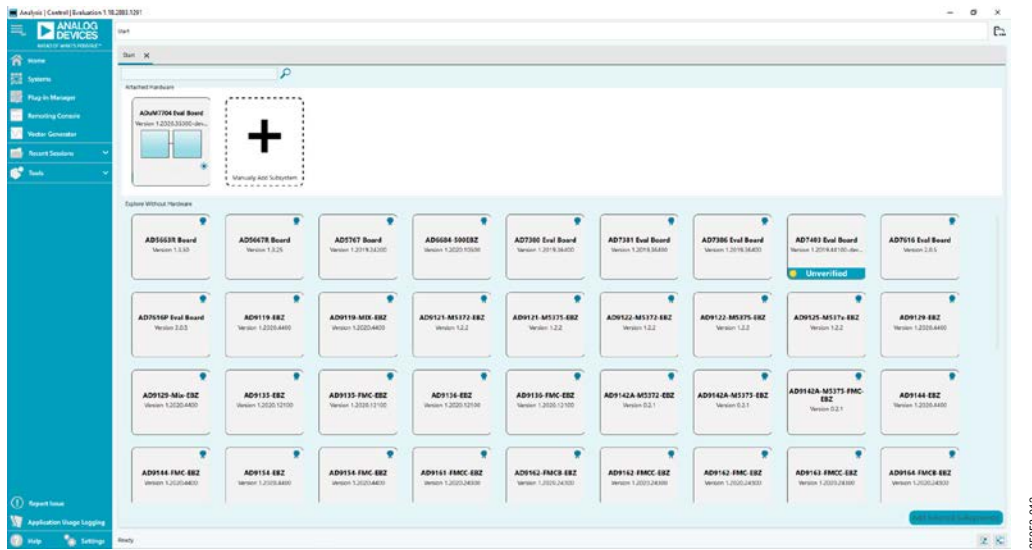
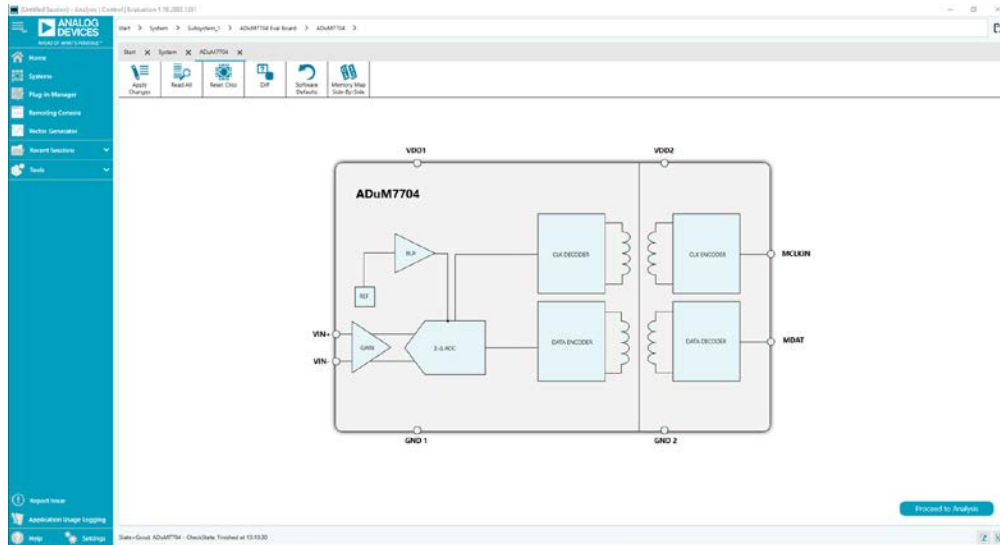
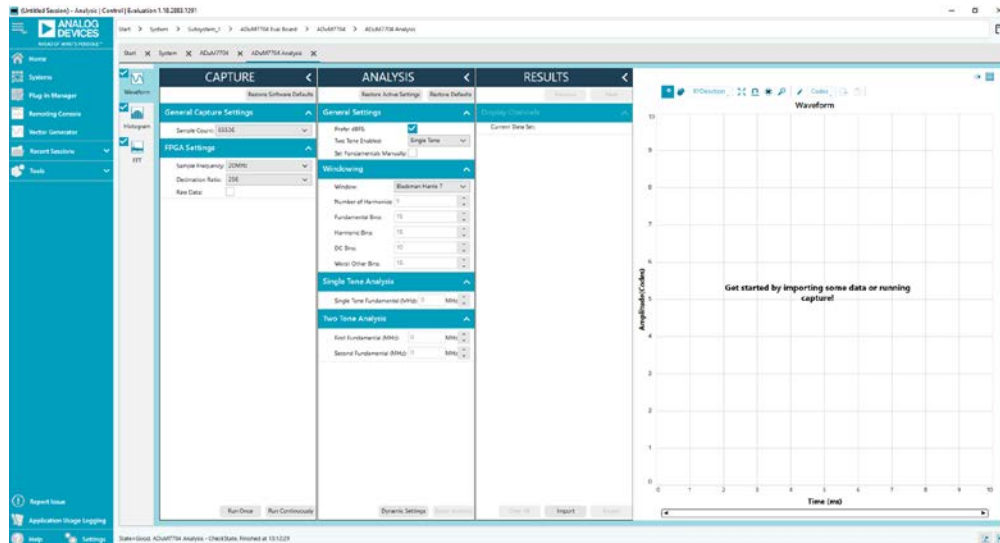

Figure 12. ACE Software Main Window
Figure 13. Chip View Window
Figure 14. Analysis View Window
1. In the **Start** menu of the PC, click **All Programs > Analog Devices > ACE > ACE.exe** to open the ACE software main window shown in Figure 12.
3. Double click the **ADuM7704 Eval Board** icon (see Figure 12) to open the chip view window shown in Figure 13.
USB port via the SDP-H1 when the ACE software launches, the **ADuM7704 Eval Board** icon does not appear in the **Attached Hardware** section in ACE (see Figure 12). To make the **ADuM7704 Eval Board** icon appear, connect the EV-ADuM7704-8FMCZ and the SDP-H1 to the USB port of the PC, wait a few seconds, and then follow the instructions in the dialog box that opens.
Click **Proceed to Analysis** in the chip view window of the **ACE** software (see Figure 13) to open the analysis view window shown in Figure 14. The analysis view window contains the